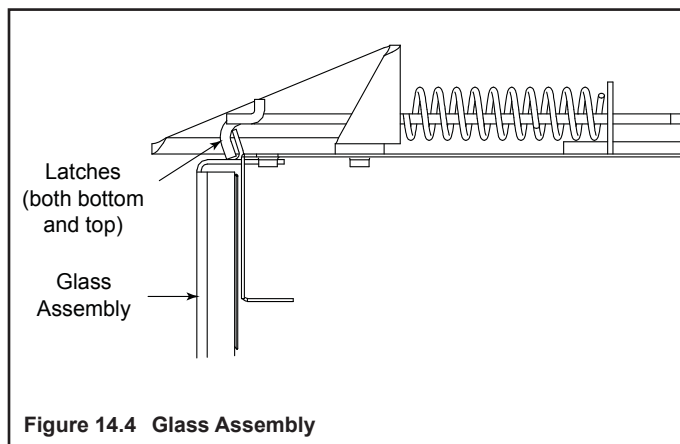

Figure 14.4 Glass Assembly
- Pull the four (30/33/36 in. appliances) or seven (42 in. appliance) glass assembly latches out of the groove on the glass frame. Refer to Figure 14.4.
- Replace glass latches. See Figure 14.4.